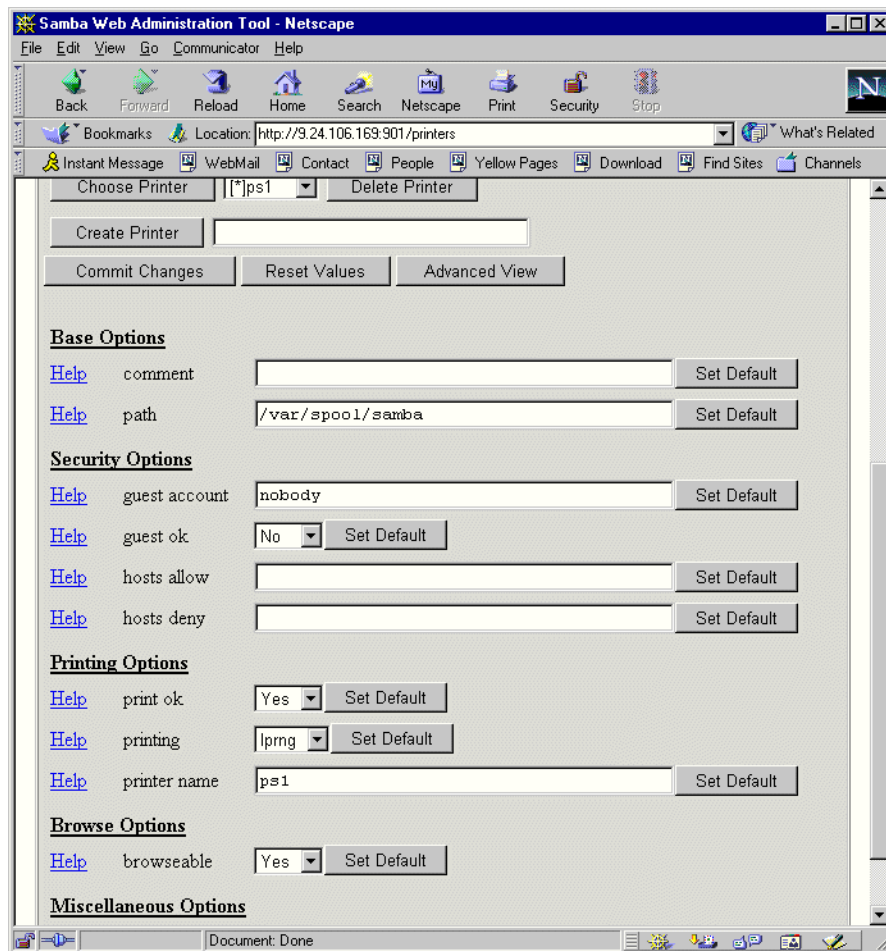

Figure 4-13 Modify printer settings
2. Click **Choose Printer** to show the parameters in a page similar to Figure 4-13 on page 73.